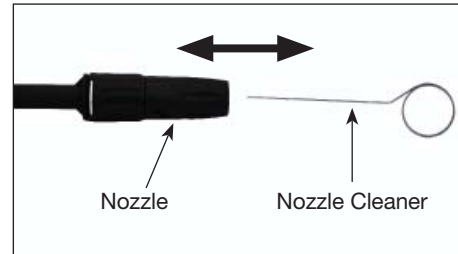

Figure 23
- Using the included nozzle cleaner, or an un-folded paper clip, insert wire into the nozzle hole and move back and forth until debris is dislodged (refer to Figure 23).